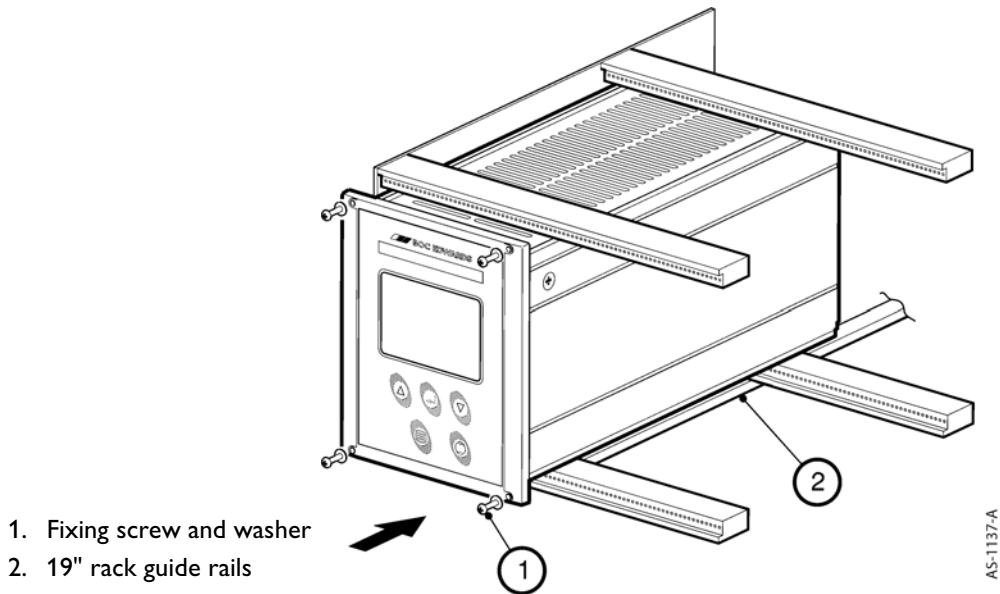

Figure 7 - Rack mounting of a TIC
- Slide the Controller into the 19" rack or panel cut out. The use of 19" rack guide rails (Figure 7, item 2) and support at the rear of the Controller is recommended as shown in Figure 7. The panel cut out information is defined in Figure 8.
- Fix the Controller in place using the four screws removed previously (Figure 7, item 1).